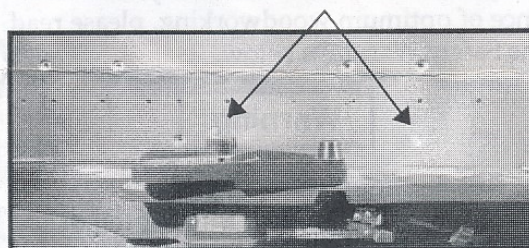

Figure 4
4. For Jointer owners, use 1-1/4" long screws (3) and refer to Figure 4.